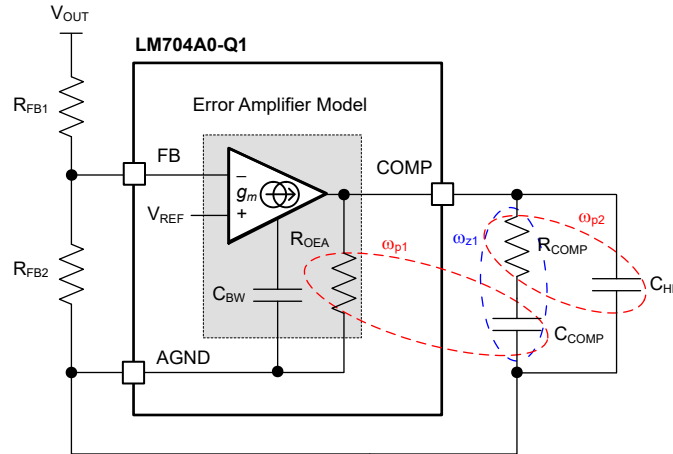

Figure 7-3. Error Amplifier and Compensation Network
A Type-II compensator using a transconductance error amplifier (EA) is shown in Figure 7-3. The dominant pole of the EA open-loop gain is set by the EA output resistance,  $R_{OEA}$ , and effective bandwidth-limiting capacitance,  $C_{BW}$  as shown by Equation 23.
The EA compensation components create a pole close to the origin, a zero, and a high-frequency pole. Typically,  $R_{COMP} \ll R_{O-EA}$  and  $C_{COMP} \gg C_{BW}$  and  $C_{HF}$ , so the approximations are valid. Figure 7-3 circles the poles in red and the zero in blue.